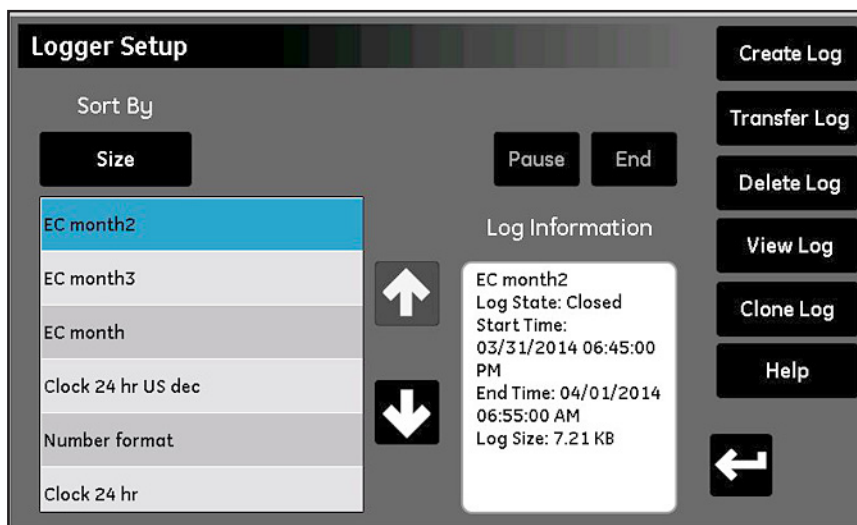

**Figure 49: Range Error Setup Screen - Alarm Response**
1. Tap the **Channel (1-6)** and **Alarm (A or B)**, and then tap the **Range Error** button to open a screen similar to *Figure 49* below.